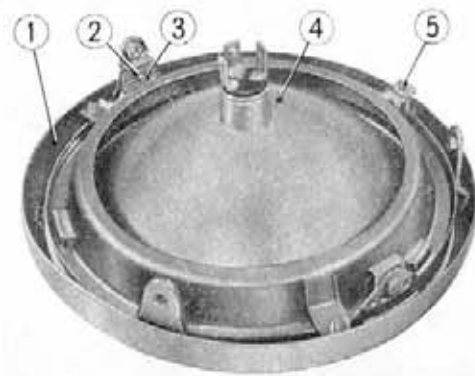

Fig. 16-5 ① Headlight rim ② Cotter pin ③ Headlight beam unit screw ④ Headlight beam unit ⑤ Adjusting screw
3. Unscrew the two headlight units setting screws, the beam adjusting screw and remove the unit from the headlight rim. (Fig. 16-5)
4. Loosen the two headlight screws and remove the beam unit. (Fig. 16-5)